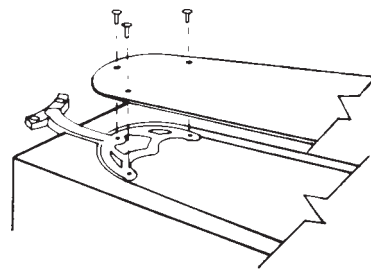
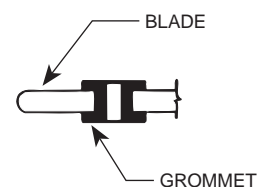

FIGURE 7
FIGURE 7A
A. Attach wood blades to blade brackets using three screws for each blade. See Figure 7. If your blades have large holes you must first insert the rubber grommets into the holes. See Figure 7A.